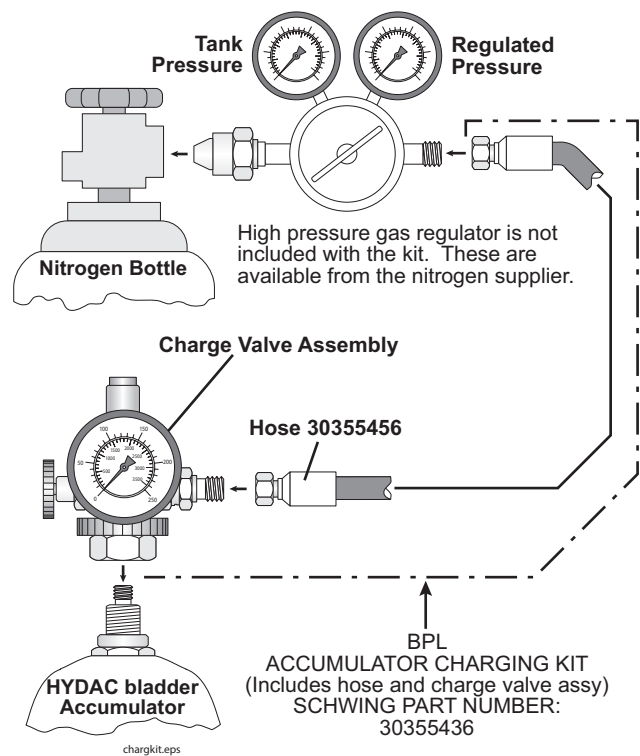

Figure 35
1. Before you begin, you will need a charging kit (Figure 35). Do not attempt to charge the accumulators without one. Order the charge valve kit assembly from the SCHWING Service Center using part number 30355436.